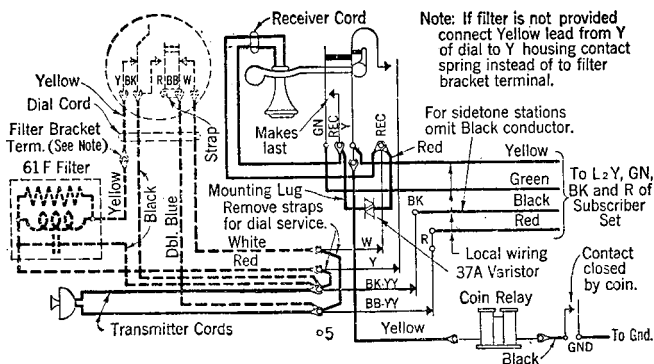

Fig. 4—161C or D Coin Collectors—For Manual or Dial Anti-Sidetone Stations
2.02 If coin collectors shown in Figs. 4, 5 and 6 are connected to sidetone subscriber sets omit black conductor between set and coin collector. Anti-sidetone subscriber sets should be used for new installations with these coin collectors, in preference to sidetone sets.
- 2.02 Anti-sidetone subsets shall be used with the coin collectors shown in Figs. 4, 5 and 6 of the section.